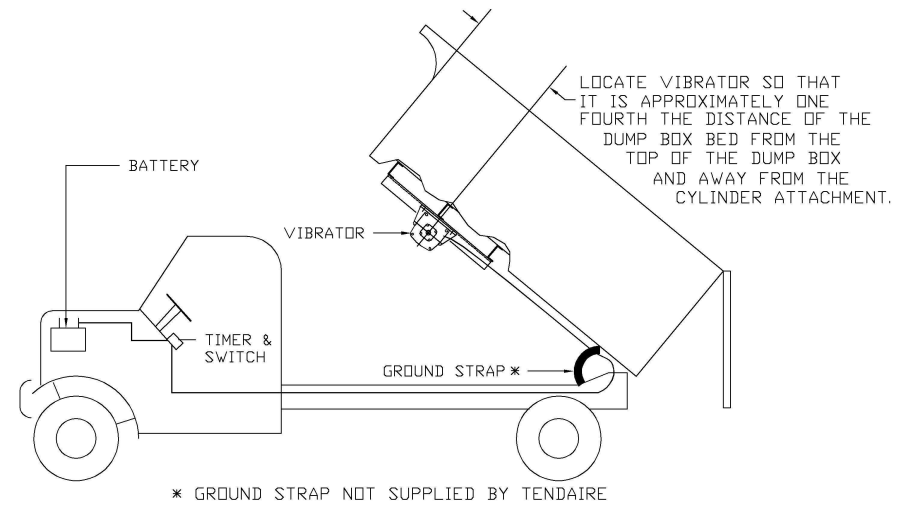

Figure 5. Vibrator Location
Use a grounding strap to bypass the hinge on the body. (see fig 5)
- 1. LOCATION:** Vibrator and vibrator power cable must be located so that they clear gas tanks, hydraulic tanks, etc., when the dump box is lowered. Vibrator should also be located approximately 1/4 the distance of the dump box bed from the front of the dump box. (See figures 5 & 6)